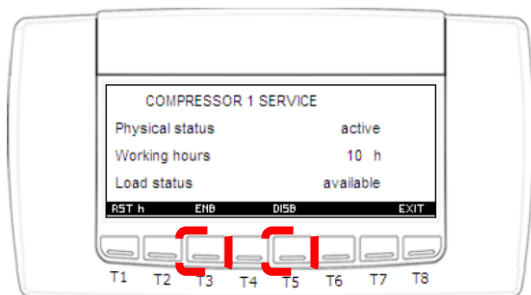

Figure 25: "Compressor 1 service" menu
To enable or disable a load for regulation: Press one of the following keys as per **Figure 25**:
- 2) Use the **UP** and **DOWN** keys to select the "Load status" sub-menu and refer to **Figure 25** for screen layout.